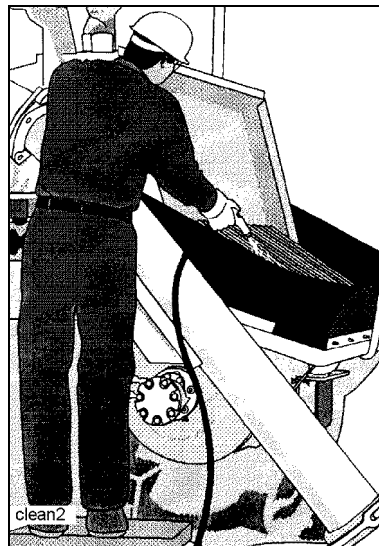

Fig.: 16
- Connect the water hose and hose out the filling hopper (Fig.: 16).